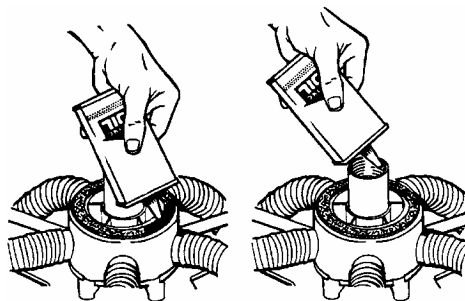

FIG. 22
6. After placing the refreshed, oil soaked felt seal in the hub, coat the surface with 30 weight oil. Lightly oil the inner hub threads before reattaching the cleaning head to the machine (Figure 22).